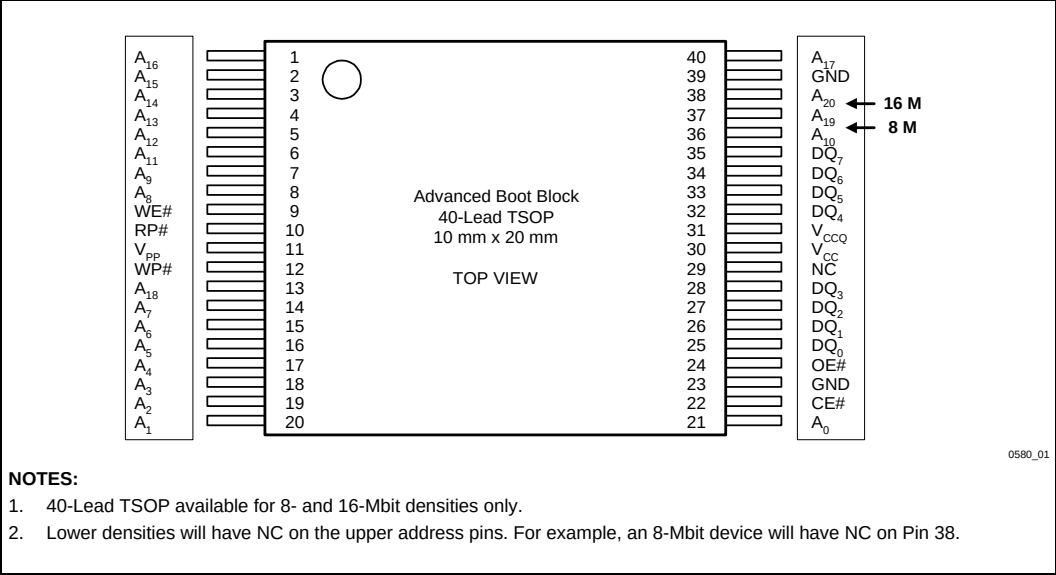
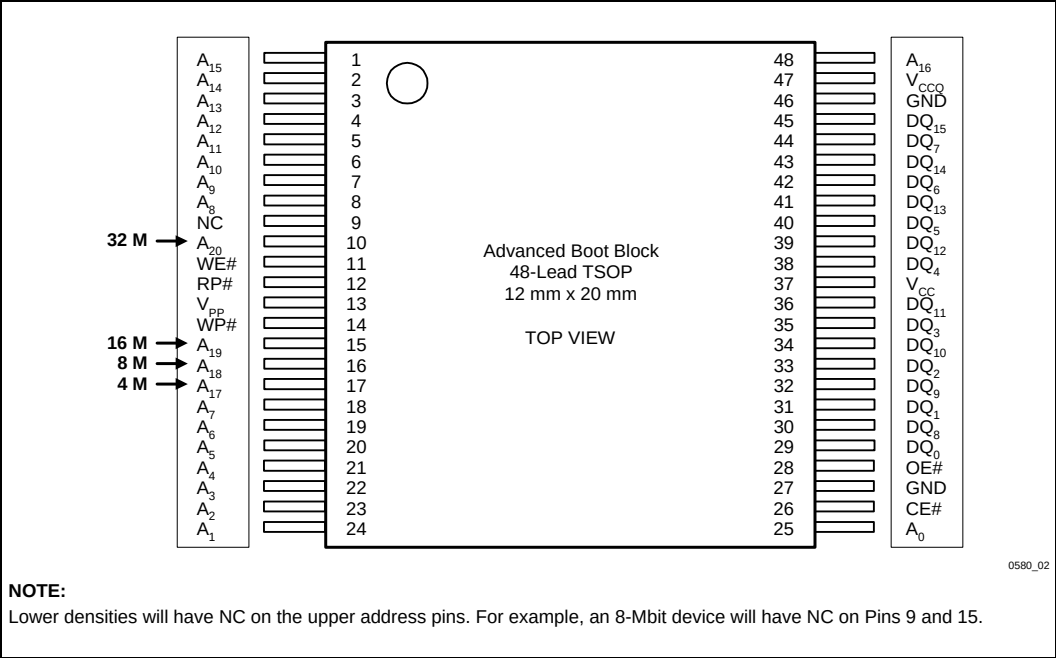
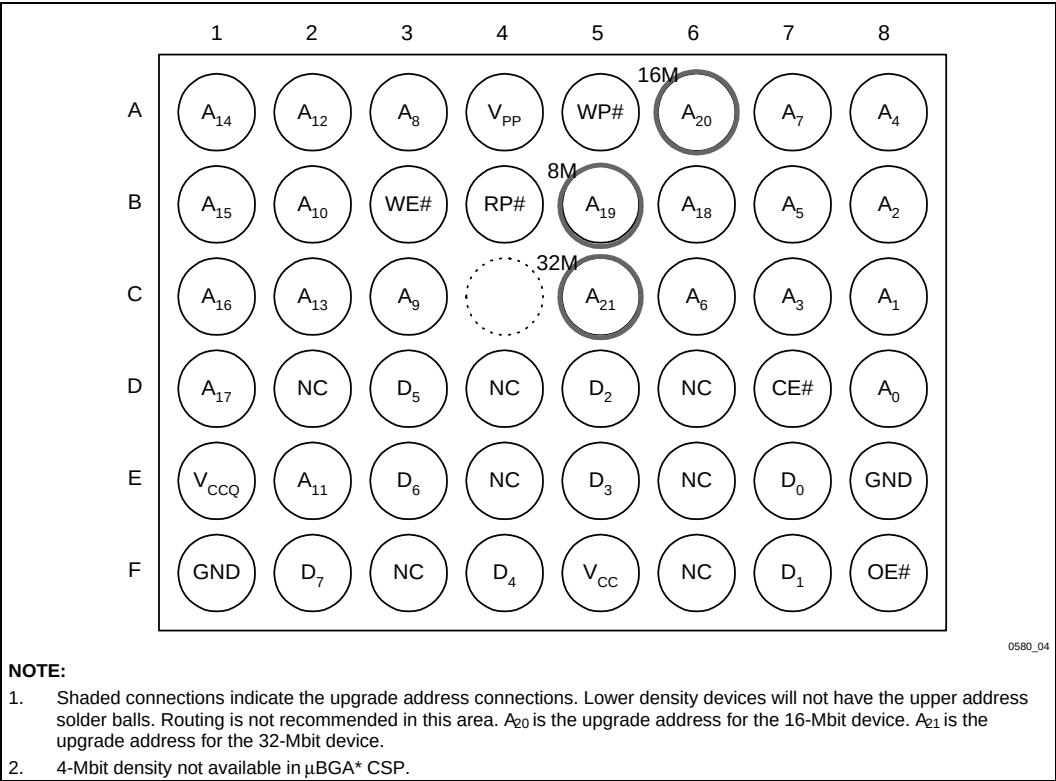
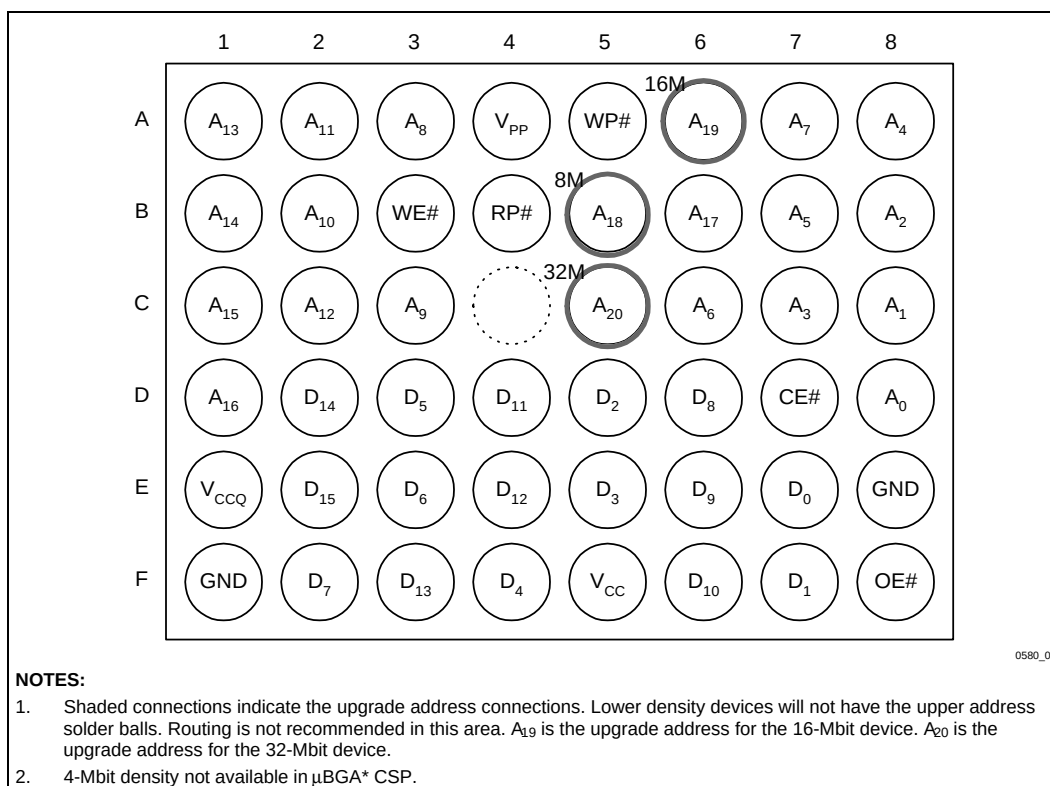

Figure 1. 40-Lead TSOP Package for x8 Configurations
Figure 2. 48-Lead TSOP Package for x16 Configurations
Figure 3. x8 48-Ball μ BGA* Chip Size Package (Top View, Ball Down)
Figure 4. x16 48-Ball μ BGA* Chip Size Package (Top View, Ball Down)
-005	μBGA package diagrams corrected (Figures 3 and 4) I_{PPD} test conditions corrected (Section 4.4) 32-Mbit ordering information corrected (Section 6) μBGA package top side mark information added (Section 6)
- V_{CCQ} input of 1.65 V–2.5 V on all I/Os. See Figures 1 through 4 for pinout diagrams and V_{CCQ} location
The Smart 3 Advanced Boot Block flash memory is available in 40-lead TSOP (x8, Figure 1), 48-lead TSOP (x16, Figure 2) and 48-ball μ BGA packages (x8 and x16, Figure 3 and Figure 4 respectively). In all figures, pin changes necessary for density upgrades have been circled.